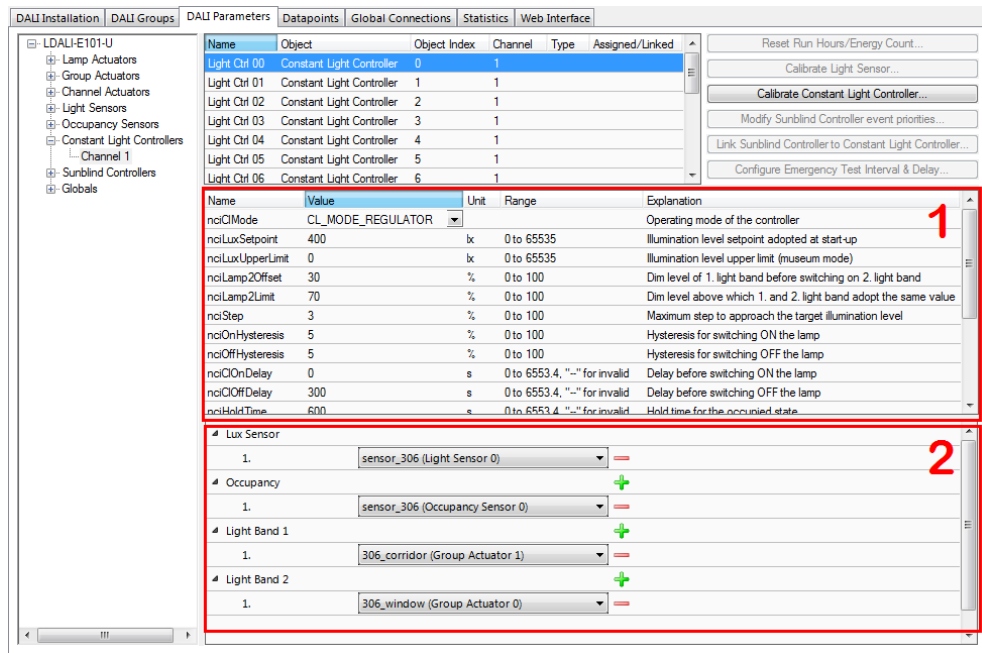

Figure 67: Parameterize Constant Light Controller.
- Select the constant light controller with index 0 as shown in Figure 67. The parameters of the selected constant light controller are displayed in the middle of the window (1).